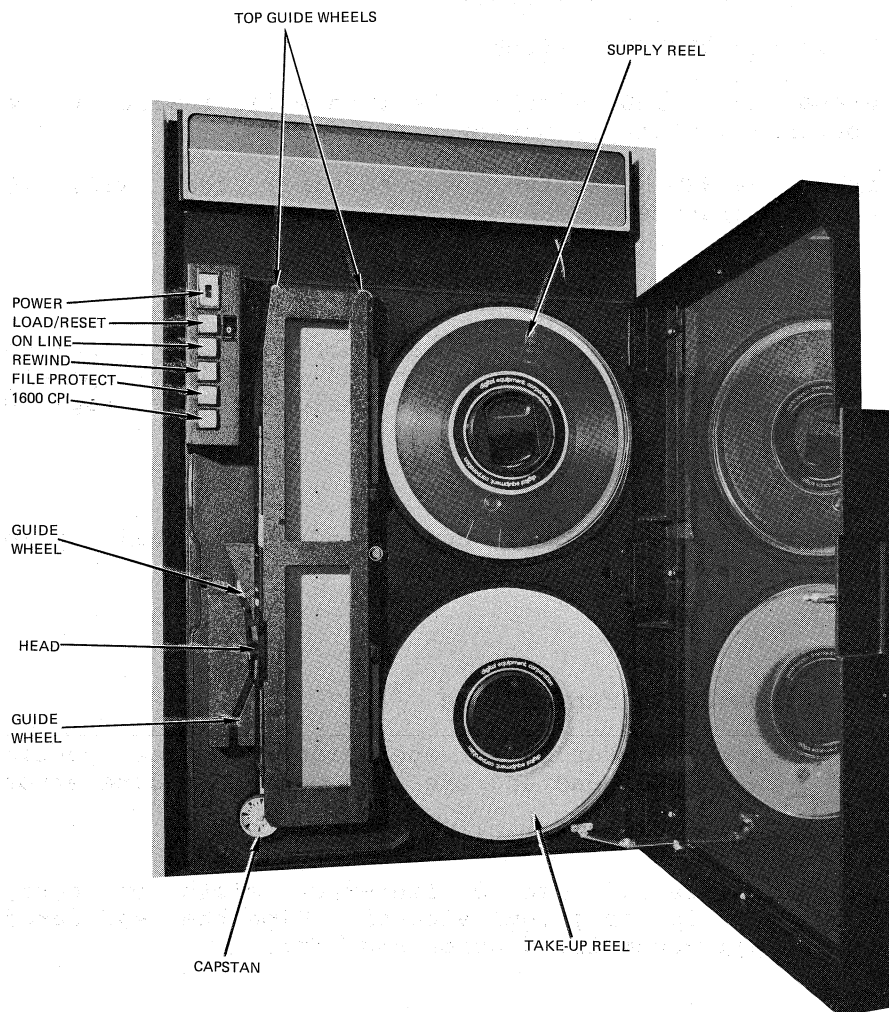

Figure 7-13 TU45 Magnetic Tape Drive
7.4.1.4 TU45 Drives (Refer to Figure 7-13)